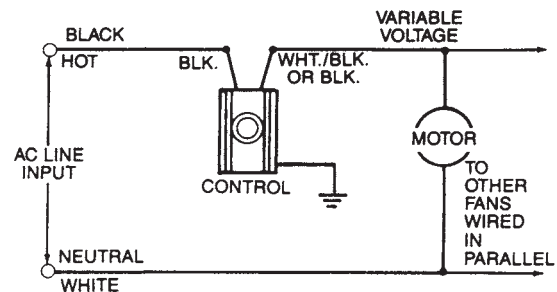

Figure 2 - Wiring Diagram
4. Make wiring connections as shown in Figure 2. Connect one hot line from the supply to one black of the control. Connect the second black of the control to the black from the fan motor. Connect green ground wire to wall box. Make sure that the wire strands are straight and attach the wire leads of the control to the circuit wires by twisting them together. Twist a wire nut onto each connection.